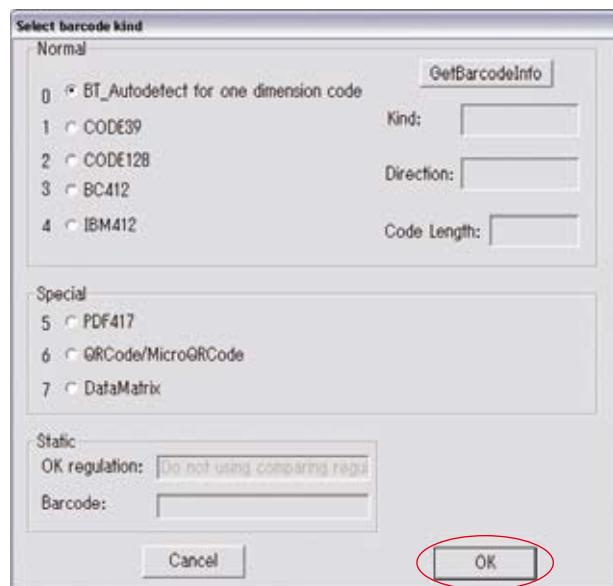

Figure 2-19 Barcode kind
Step3: Press **Set** and the window shown in Figure 2-19 appears.